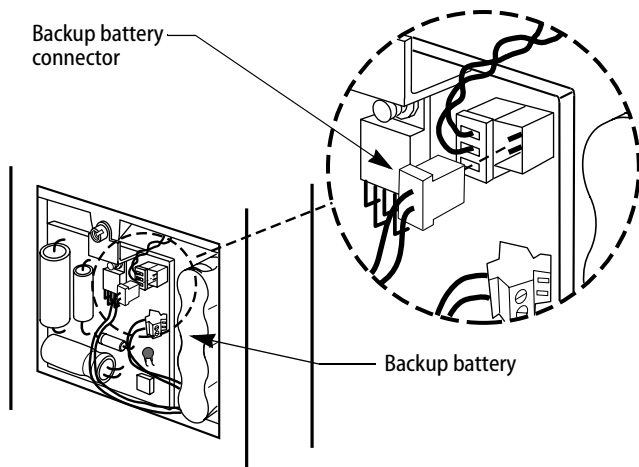

Figure 6—Connecting the backup battery
- 7 Place the backup battery (with wires projecting from the bottom) into the battery compartment. Connect the backup battery to the external power circuit board as shown in Figure 6.